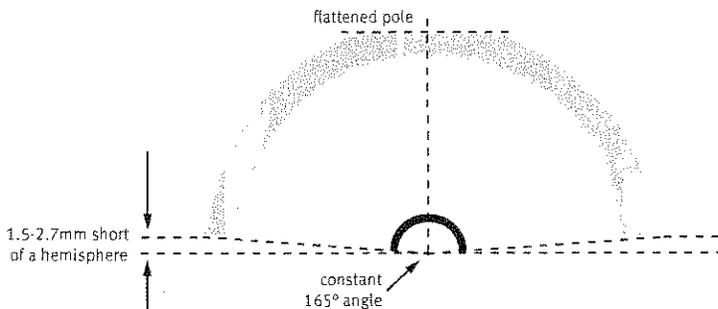

Fig. 1
**Geometry:** The *Durom* Acetabular Cup is designed with a shape closer to the true acetabulum and has a truncated hemisphere of 165° (Fig. 1).2 This design allows more bone to be conserved during acetabular preparation. It also allows excellent range of motion and an increase in hip stability, potentially lowering the risk of dislocation. Because of the low profile geometry, the *Durom* Shell will seat differently than a hemispherical shell. Additionally, there are circumferential fins that protrude 0.5mm from the rim of the shell (Fig. 1). These fins improve the stability of the cup by enhancing rotational stability and providing 1mm of additional purchase at the periphery of the shell.
The *Durom* Acetabular Cup has a 165° low profile design and is flat in the polar region (Fig. 1). Because of these features, it is important that the surgeon not ream the acetabulum too deep. The shell's initial stability is achieved by its 2mm press fit and at the rim via the circumferential fins (Fig. 2). Obtaining an adequate subchondral bone bleeding surface area without aggressive medialization will also maximize bone conservation. The surgeon should ream to the templated shell size, and then use the trial shell to assess the depth of the ream. The acetabular trials have the same diametrical measurement as the acetabular reamers, therefore if the last reamer size is 54mm, then a 54mm trial cup should be used to assess the acetabular preparation (Fig. 3). A 56mm provisional can be used to check the press fit for a 54mm sized cup since *Durom* Cups have a 2mm built-in press fit.